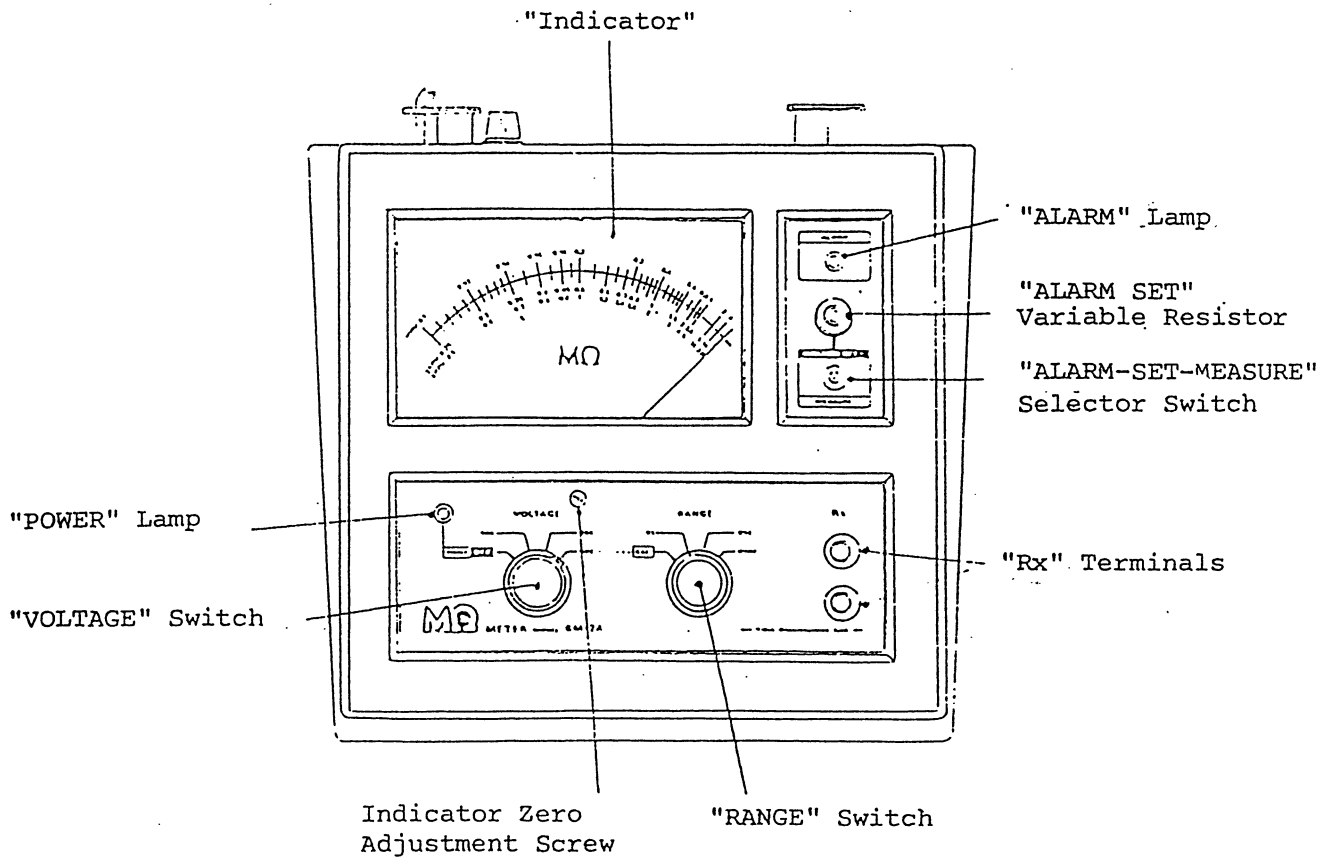

Fig. 2 Front Panel
1) Front panel (Refer to Fig.2)